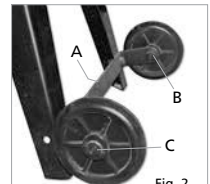

Fig. 2
1. Put the axle (A, Fig. 2) in place and tighten to the legs. Place the bolts (B, Fig. 2) on both sides of the wheels and place on the axle. Secure wheels with two screws (C, Fig. 2).